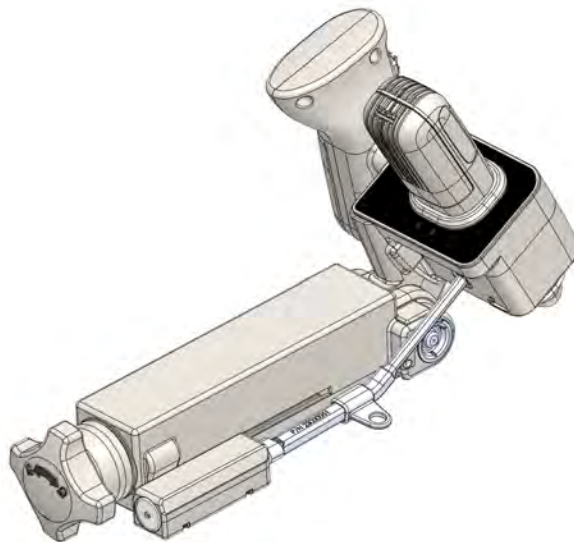

Figure 8. Verification Tool connected to the Verification Tool Receptacle.
- Adjust the Aiming Arm angle until the Verification Tool connects to the Verification Tool Receptacle (Figure 8).